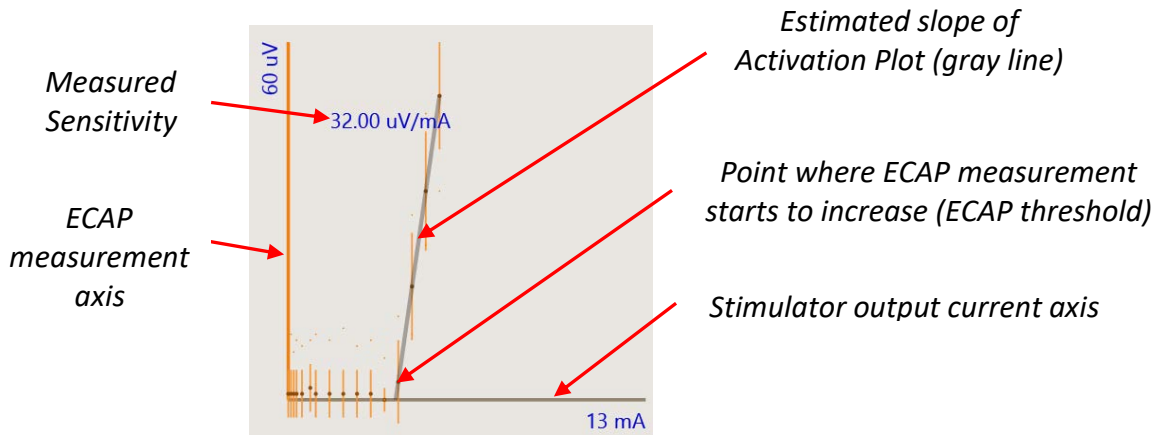

Figure 6.19: The Activation plot – ECAP amplitude (μV) versus Current (mA).
3. The activation plot will display the ECAP amplitude as a function of current, and the measured sensitivity is displayed on the plot (see Figure 6.19).
- a. The activation plot should show an obvious inflection in the ECAP amplitude close to the patient's paraesthesia threshold. Above this inflection the ECAP amplitude should increase linearly with the stimulation current (see Figure 6.19).